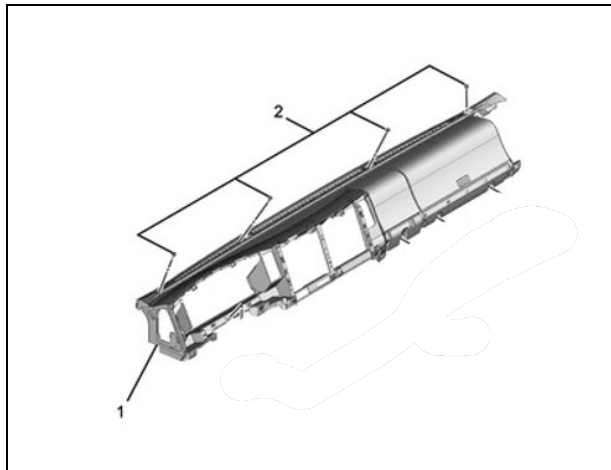

Figure 48
52. Remove the four (4) instrument panel (IP) mounting bolts. (See Figure 48.)